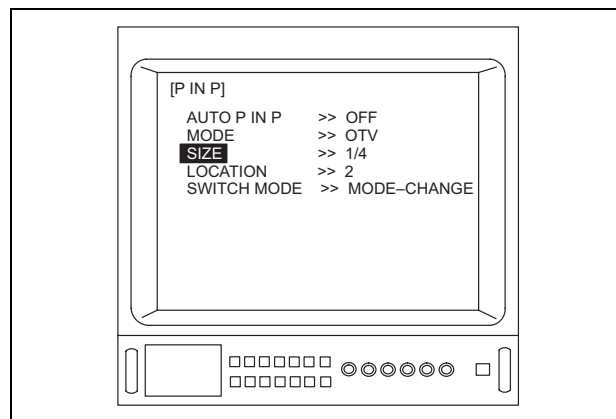

Figure 5.123
7. Depress the menu switch “◀” or the “Enter” key on the keyboard to adjust the “SIZE” (see Figure 5.123).